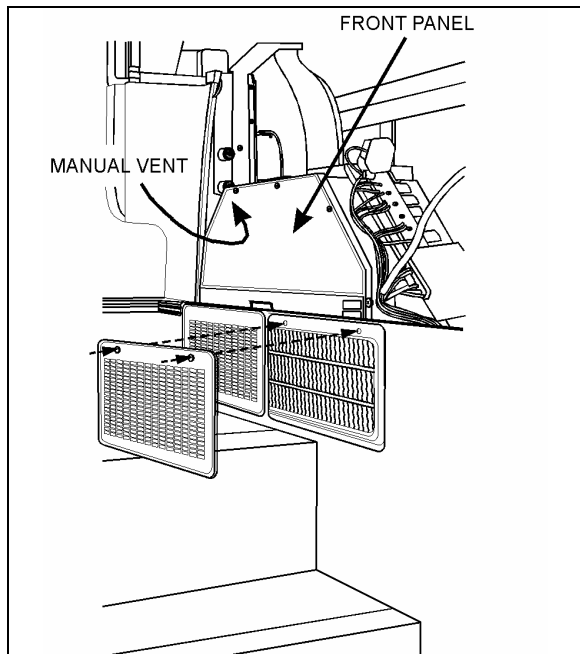

FIGURE 52: DRIVER'S HVAC UNIT 22172
- d) From inside of vehicle, remove the two finishing panels in front of unit. Remove the three screws fixing the unit front panel. Open the manual vent located inside the HVAC unit, on the driver's side (Fig. 52) to ensure an efficient draining.
Whenever the heating system has been drained and refilled, or the system has run low on coolant and coolant has been added, it is necessary to bleed air from heating system. Locate the manual vent illustrated in Figure 52 and open momentarily until no air escapes from the line.